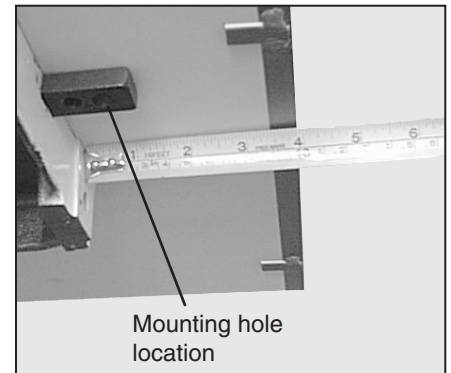

Figure 4: Take multiple measurements to ensure the squareness of the two table tops to each other.
4. Measure the distance from the edge of the Rockler bandsaw table to the existing bandsaw table at several points to be sure it's positioned square, see Fig. 4. From the underside of the table, mark the location of the end holes on the miter bar.